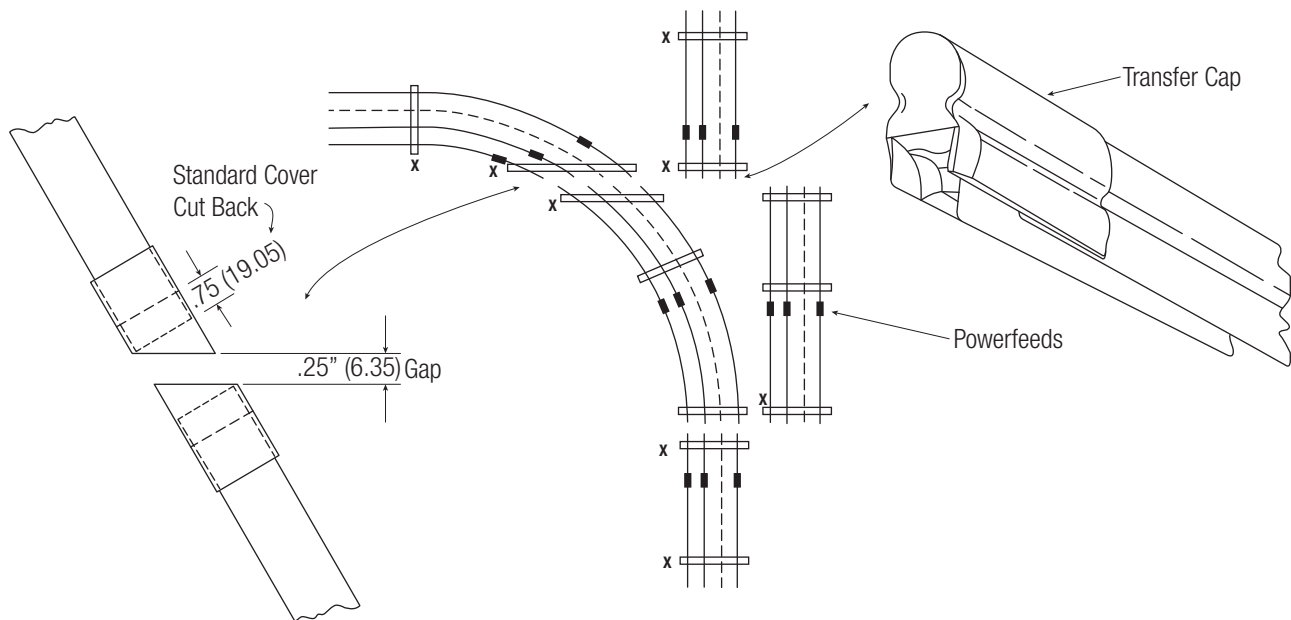

Figure: 10-3
10.3.1 Cut off cover than position on transfer cap must be as shown. Hanger clamps to be anchor tight at "x". See **Figure 10-3**.